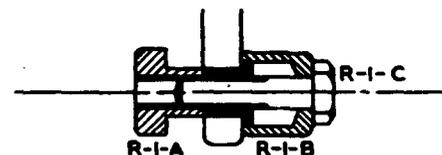

Fig. 15
(2) **Cam Shaft Bearings:** Loosen the set screws of both sweep cams (see note), the operating cam and the spur gear (Std. 3270-A-70). Remove the cam shaft by sliding it out to the right. The spur gear, the left hand sweep cam, the operating cam and the right hand sweep cam will drop off as the shaft is moved out to the right. (Observing the position of these cams with respect to each other will be of help when reassembling them on the shaft later on). Remove the bearing holding screws. Remove the bearings by means of the bearing removal tool shown in Fig. 15.
Loosen the set screws of gear (Std. 3270-A-100) and gear (Std. 3270-A-99). Slide the shaft out to the right. Remove the bearing holding screws (located underneath the bearing). Remove the bearings by means of the bearing removal tool shown in Fig. 15. The three parts of this tool are marked R-1-A, R-1-B and R-1-C. Assemble them in the bearing as shown so that when nut R-1-A is tightened the bearing will be pushed into the recess of R-1-B.